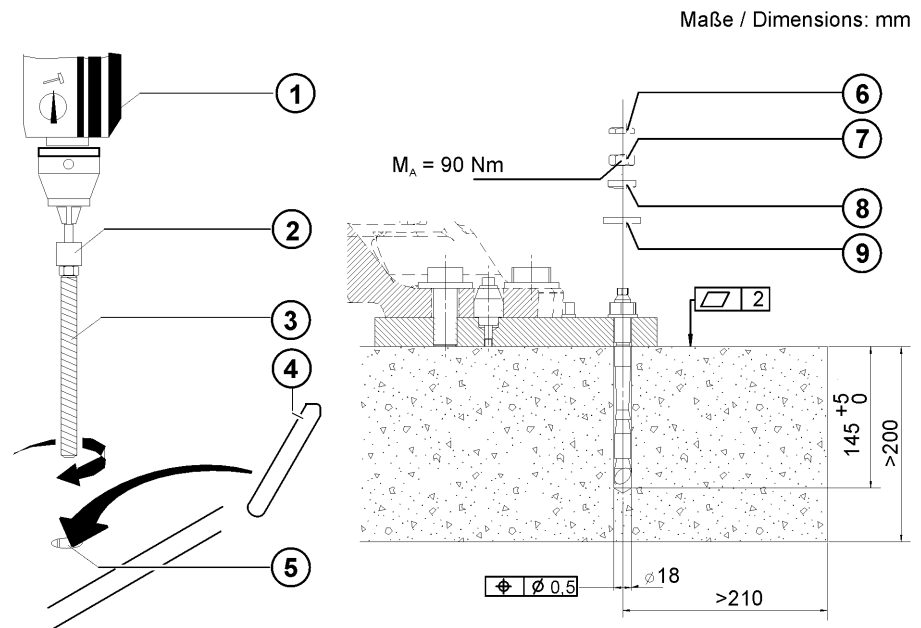

Fig. 8-1: Installation of resin-bonded anchors
7. Drill 12 anchor holes (>>> Fig. 8-1) (5) through the holes of the bedplates into the foundation.